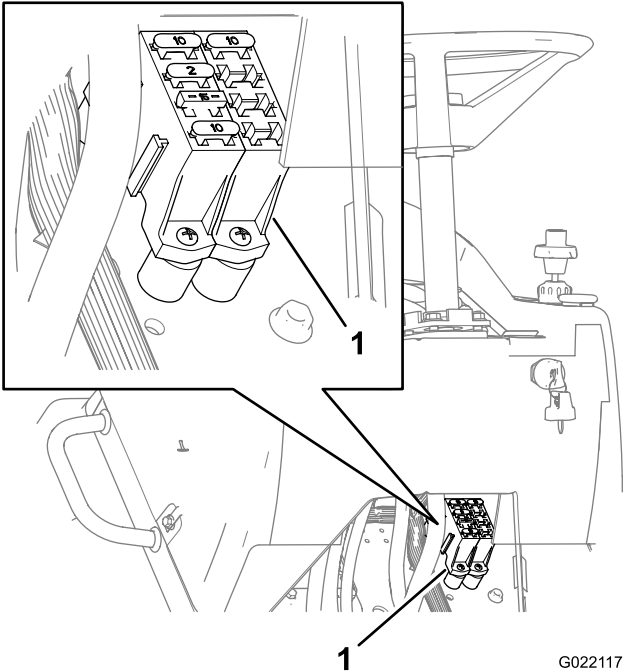

Figure 61
- 3. Replace the open (blown) fuse in the fuse block with a new fuse that has an equivalent amperage value (Figure 61).